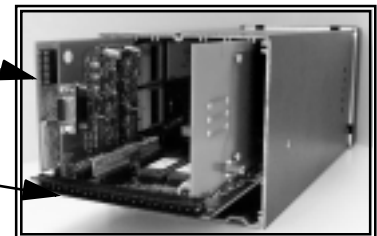

Figure 3
- Fit the card in connector position (See Figure 3) J9 and J18 on the left side of the motherboard ensuring the pins are in the correctly corresponding ports. That is, the pins on the communications card match the indents on the ports. (i.e the card is placed in its sockets so that pin 1 of the card is fitted to pin 1 of the socket)